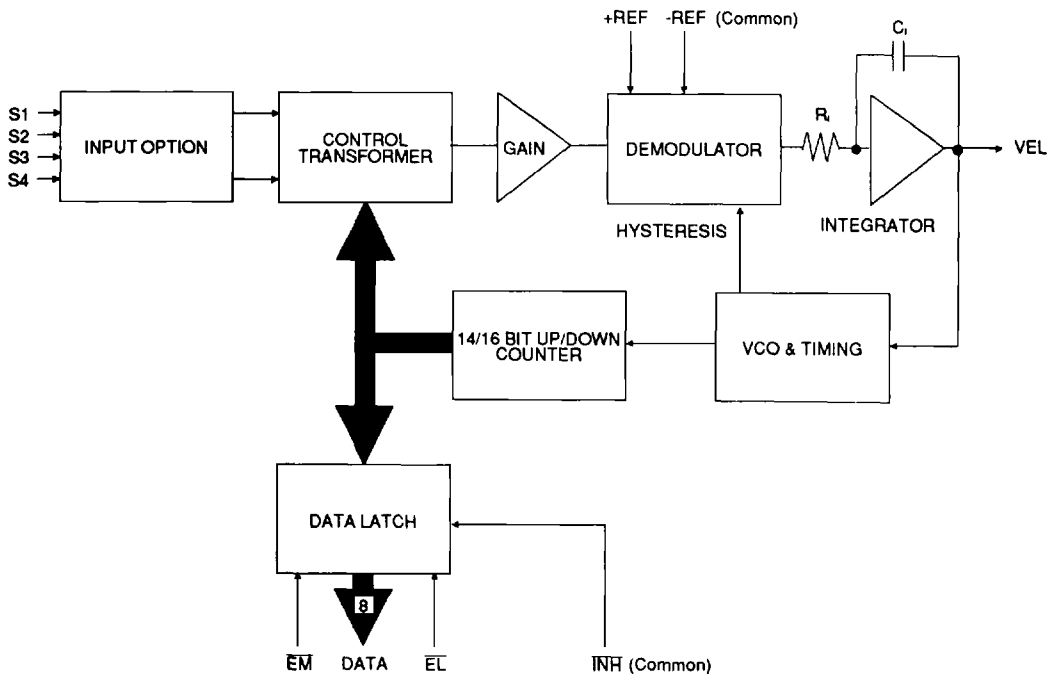

FIGURE 1. SDC-14600/05 BLOCK DIAGRAM (one channel)
Figure 1 is the Functional Block Diagram of SDC-14600/05 Series. The converter operates with $\pm 5V_{dc}$ power supplies. Analog signals are referenced to analog ground, which is at ground potential. The converter is made up of three main sections; an input front-end, a converter, and a digital interface. The converter front-end differs for synchro, resolver and direct inputs. An electronic Scott-T is used for synchro inputs, a resolver conditioner for resolver inputs and a sine and cosine voltage follower for direct inputs. These amplifiers feed the high accuracy Control Transformer (CT). Its other input is the 14 bit digital angle ϕ . Its output is an analog error angle, or difference angle, between the two inputs. The CT performs the ratio-metric trigonometric computation of $SIN\theta COS\phi - COS\theta SIN\phi = SIN(\theta - \phi)$ using amplifiers, switches, logic and capacitors in precision ratios.
The dynamic performance of the converter can be determined from its Functional Block Diagram and its Bode Plots (open and closed loop); These are shown in figures 1 and 2.